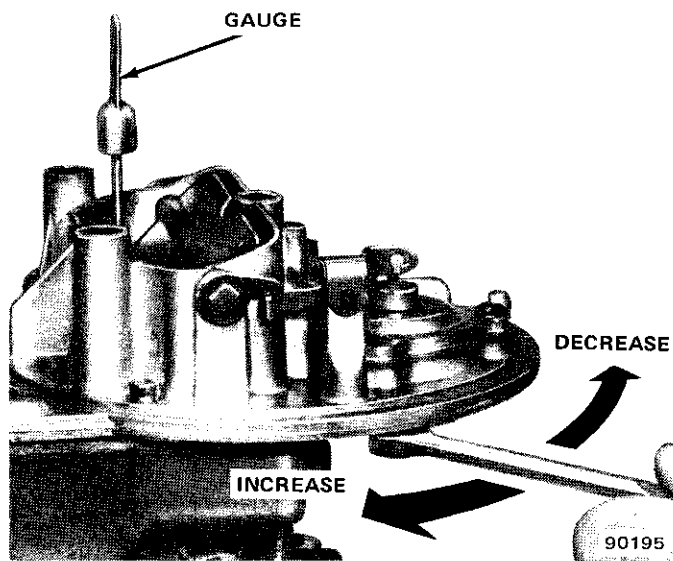

Fig. 1J-57 Initial Choke Valve Clearance Adjustment
(1) Loosen choke cover retaining screws and rotate choke cover 1/4-turn counterclockwise (rich). Tighten one screw.
(2) Disconnect choke heat inlet tube. Align fast idle speed adjusting screw with second step (index) of fast idle cam.
(3) Start engine without moving accelerator linkage. Turn fast idle cam lever adjusting screw out (counterclockwise) three (3) full turns. Measure clearance between lower edge of choke valve and air horn wall. Refer to Specifications for correct setting.
(4) Adjust by turning set screw on bottom of modulator. Turn screw in to increase clearance or turn out to decrease clearance (fig. 1J-57).